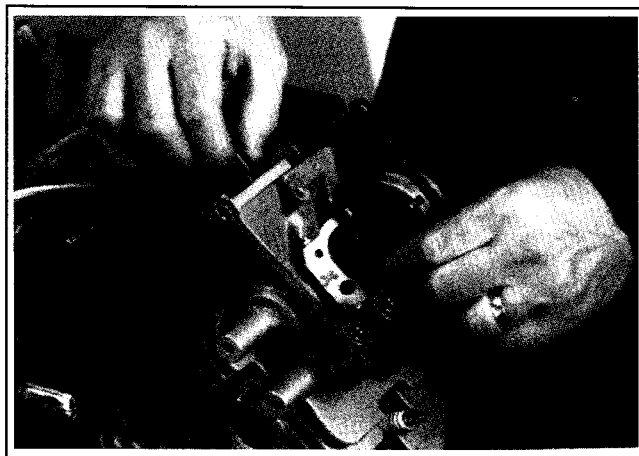

**Figure 11-26. Rectifier-Regulator Connected.**
3. Connect terminal block to the rectifier-regulator. See Figure 11-26.